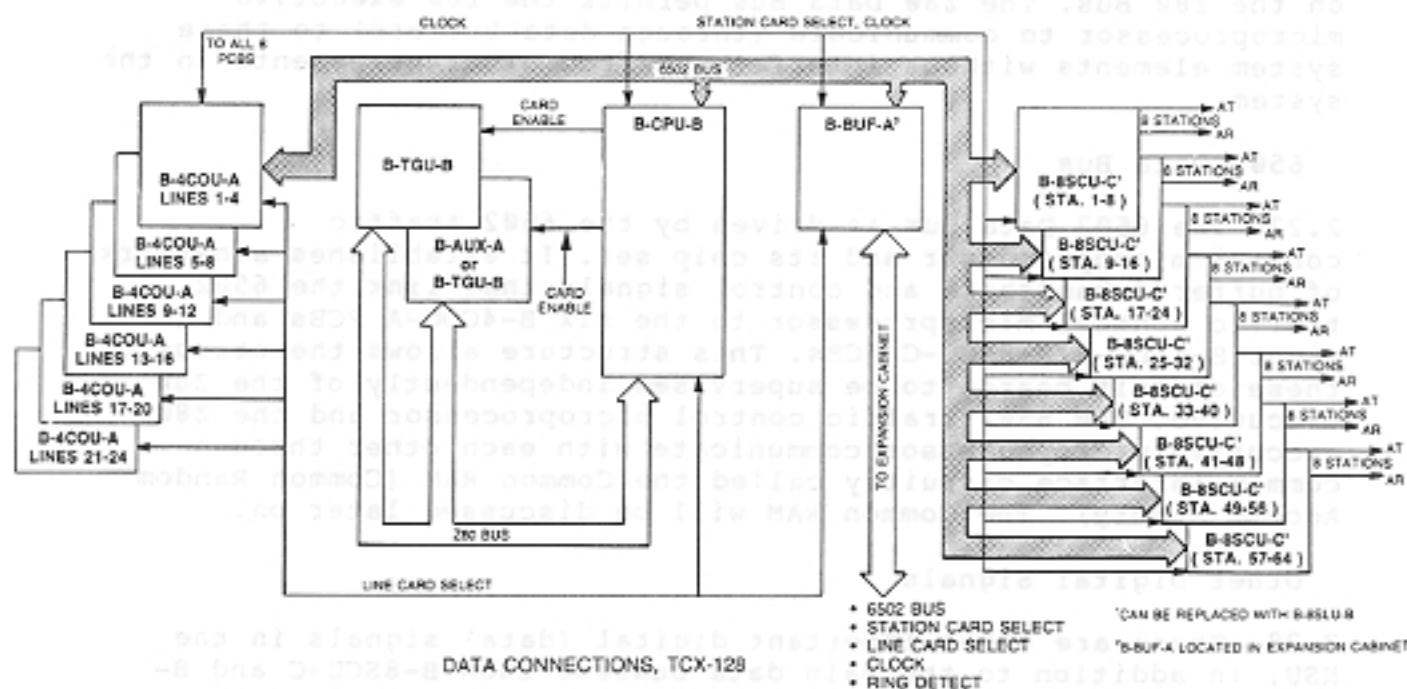

Figure 8-3 DATA CONNECTIONS, TCX-128
2.25 Data communication between the PCBs in the KSU is over two backplane data busses (Figure 8-3): the Z80 Data Bus and the 6502 Data Bus.